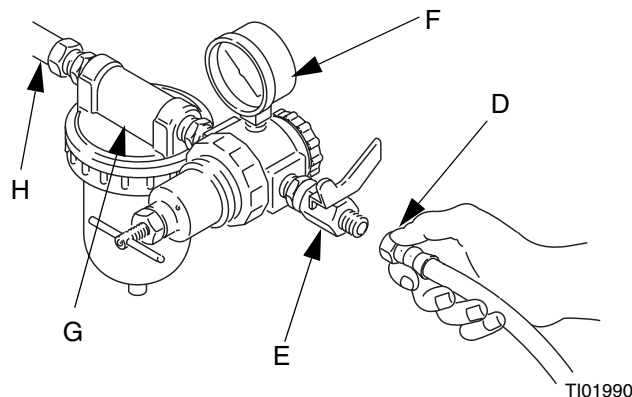

FIG. 8: Connect Air Line
You must install an air pressure regulator (F) on each gun air line to control air pressure to the gun. See FIG. 8.
If your regulated air source does not have a filter, install an air filter (G) on each air line to ensure a dry, clean air supply to the gun. Dirt and moisture can ruin the appearance of your finished workpiece. See FIG. 8.